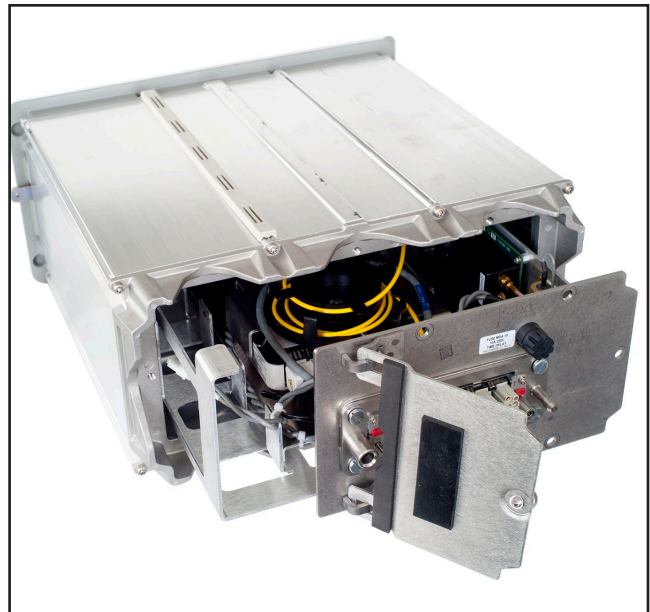

Figure 5. Removing the radio tray assembly.
- STEP 3.** Slide the radio tray out of the communication module. See Figure 5.